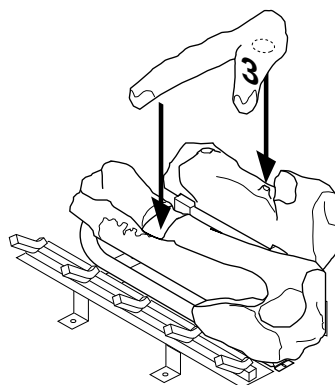

Figure 56 - Installing Log No. 3
3. Place log #3 (crossover log) onto the rear and front logs. Make sure it is seated properly into the notch on the front log and over the raised triangular portion of the rear log as shown in Figure 56.